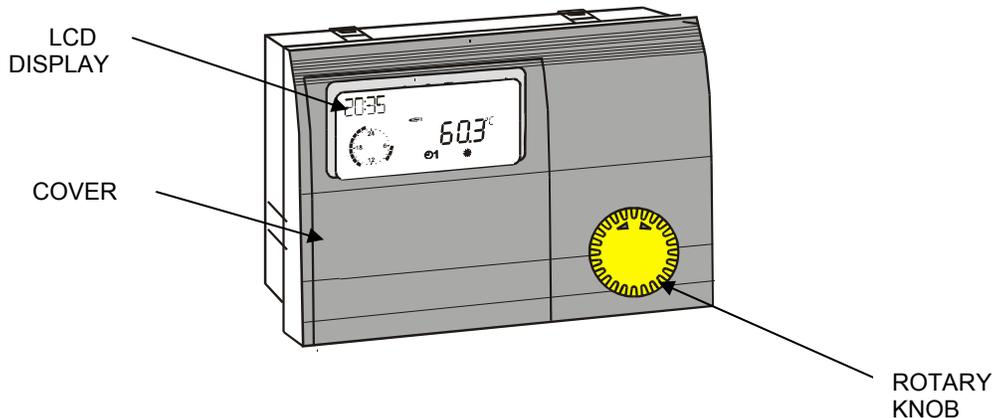
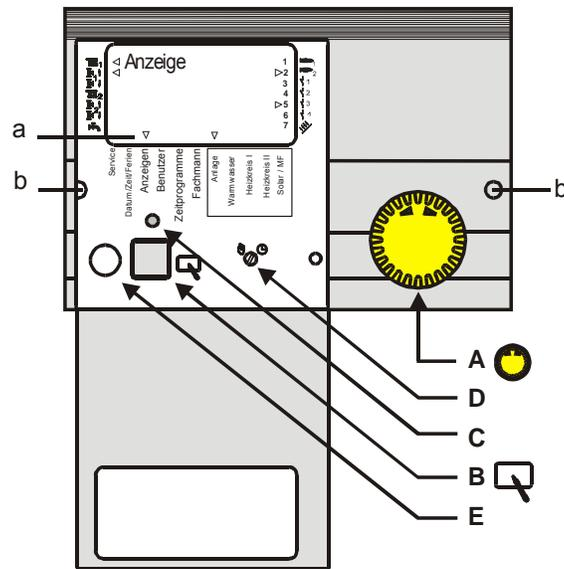

Figure 2-1. E8 Controller With Cover Closed
Figure 2-2. E8 Controller With Hinged Panel Open
The front of the Controller (Figure 2-1) contains a hinged cover which, when closed, reveals a multi-function LCD display and a Rotary Knob. When the Controller cover is opened, it provides access to additional controls and indicators used for installation setup, operation and troubleshooting tests for the Modulex Boiler. These items are illustrated and described in Figure 2-2 and the Table 2-1.
The basic menu processing procedure is accomplished using the Rotary Knob and the Program Key shown in Figure 2-2. Following initial startup and one-time entry of the required INSTALLATION menu items (see paragraph 3.8), perform the following steps to access, view and/or change menu items:
3. To view functions included in the INSTALLATION sub-menu, press the Program Key (Item B in Figure 2-2). If desired, turn the Rotary Knob to scroll through the functions in the INSTALLATION sub-menu. As previously mentioned, these display functions are read-only and cannot be changed. Once you reach the end of the sub-menu, RETURN will appear in the display.
8. To change the value of a displayed sub-menu function, press the Program Key. The Change LED (item C in Figure 2-2) will light indicating that the displayed sub-menu function can now be changed. Turn the Rotary Knob clockwise (increase) or counterclockwise (decrease) to change displayed value of the sub-menu function.